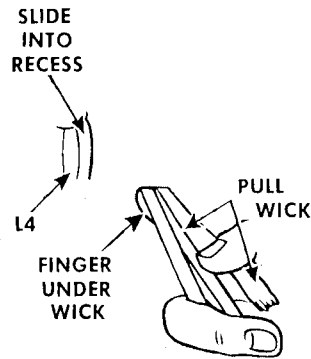

Fig. 63. Adjusting Wick in Machine
8. Place index finger under wick and holder body and simultaneously pull the oil-removing wick, as required, sliding the hinge plate and cover **L4** fully into its recess in the head of the machine, as shown in **Fig. 63**.